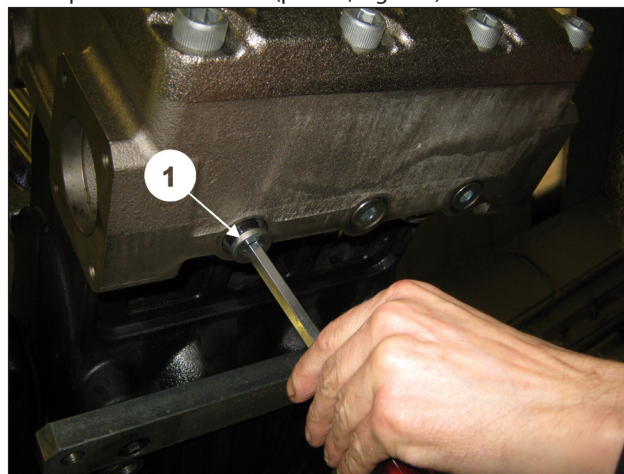

Fig. 113
Complete disassembly by removing the G1/2" plugs on the lower part of the manifold (pos. ①, Fig. 113).